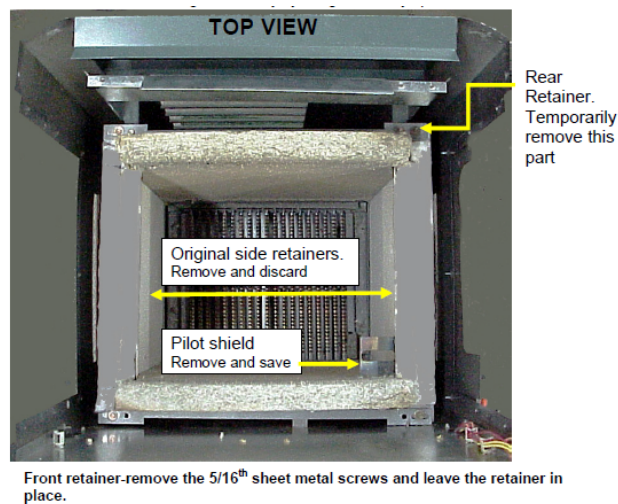

Figure 6. Remove Heat Exchanger Assembly
11. Remove the heat exchanger assembly by lifting it carefully up and out of the cabinet (See **Figure 6**).